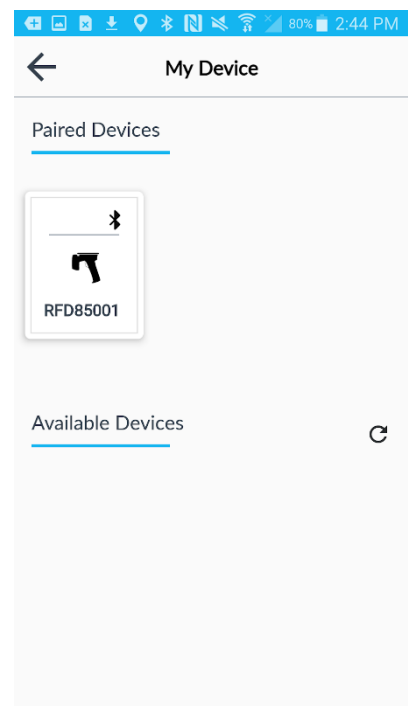

**Figure 4**
1. Once logged in tap on the 'Menu' at the top right corner of the screen. This will show the list of features available. **Fig. 4**